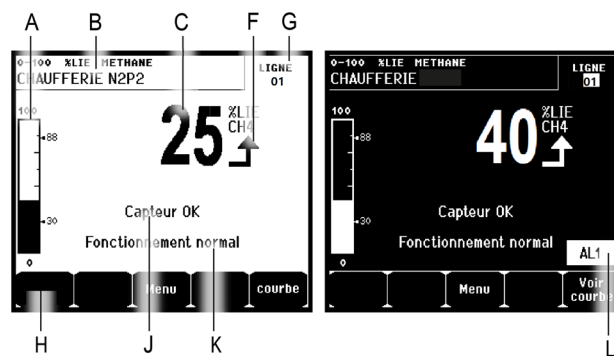

Figure 17: Example of the measurement display in normal mode and in grayscale mode
L.	Zone of indication of activated alarms with blinking threshold display. The screen changes to inverse video (Figure 17).